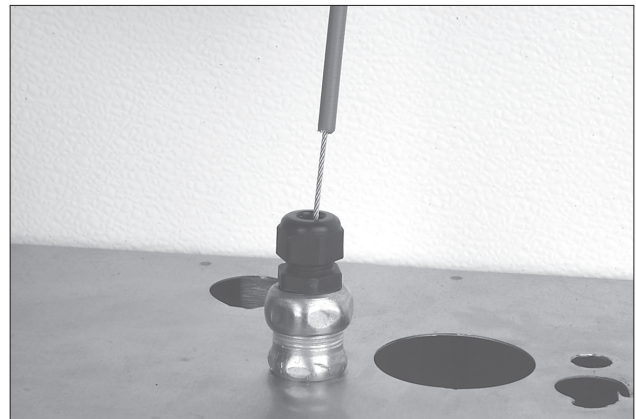

FIGURE 5-59
8. Thread the wire rope through the flexible conduit. See Figure 5-59. If a splice is required in the flexible conduit, proceed to *Splicing Installation Instructions*.